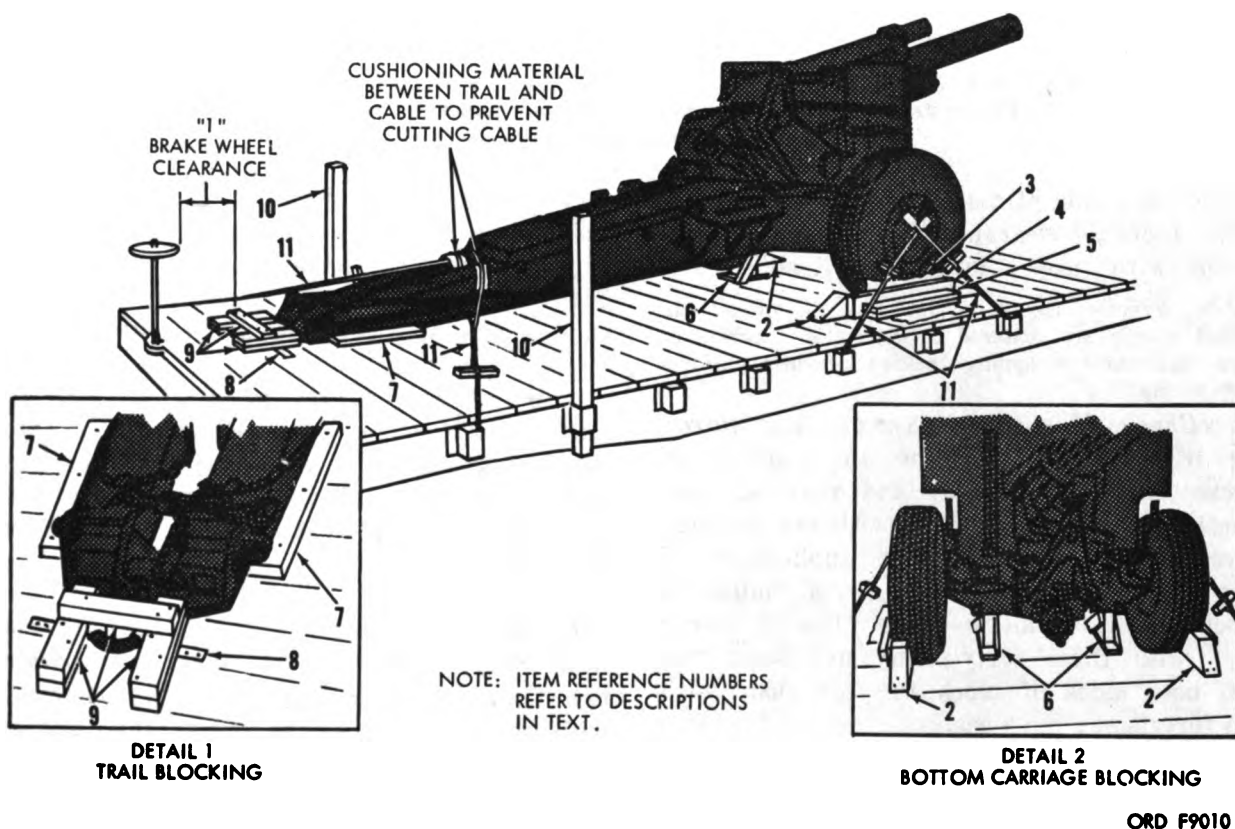
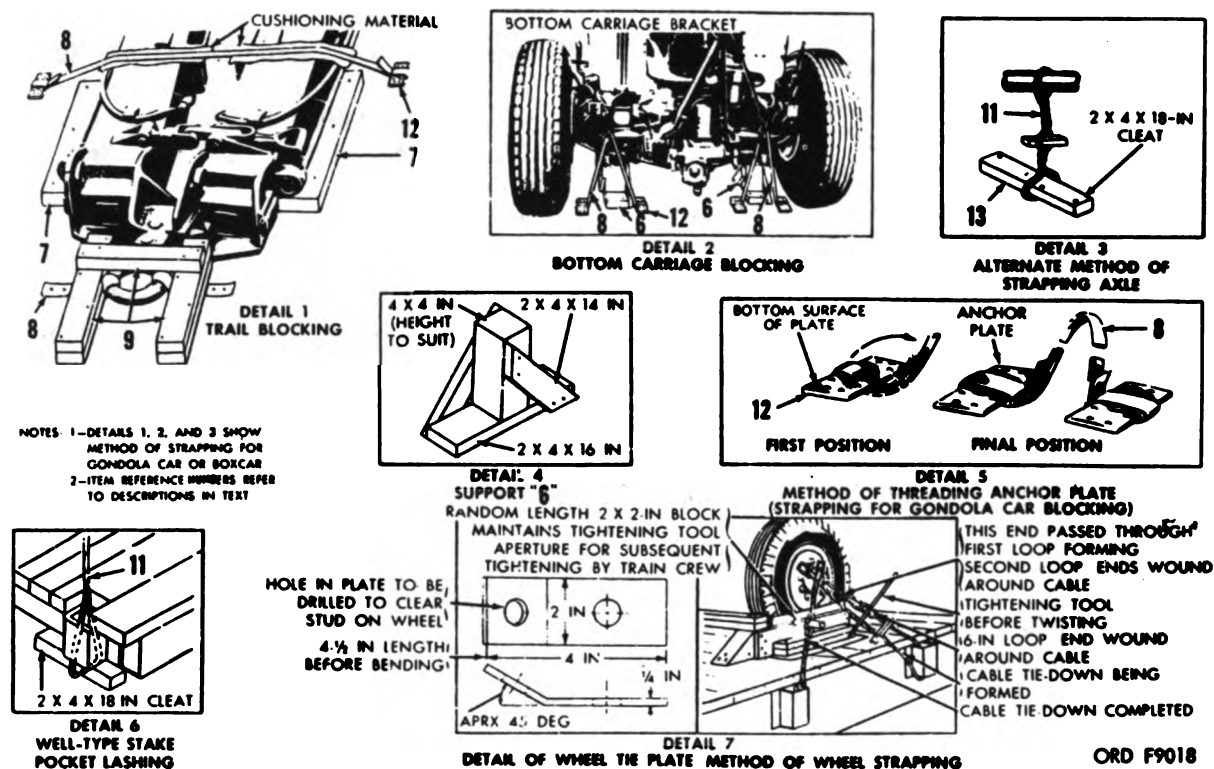
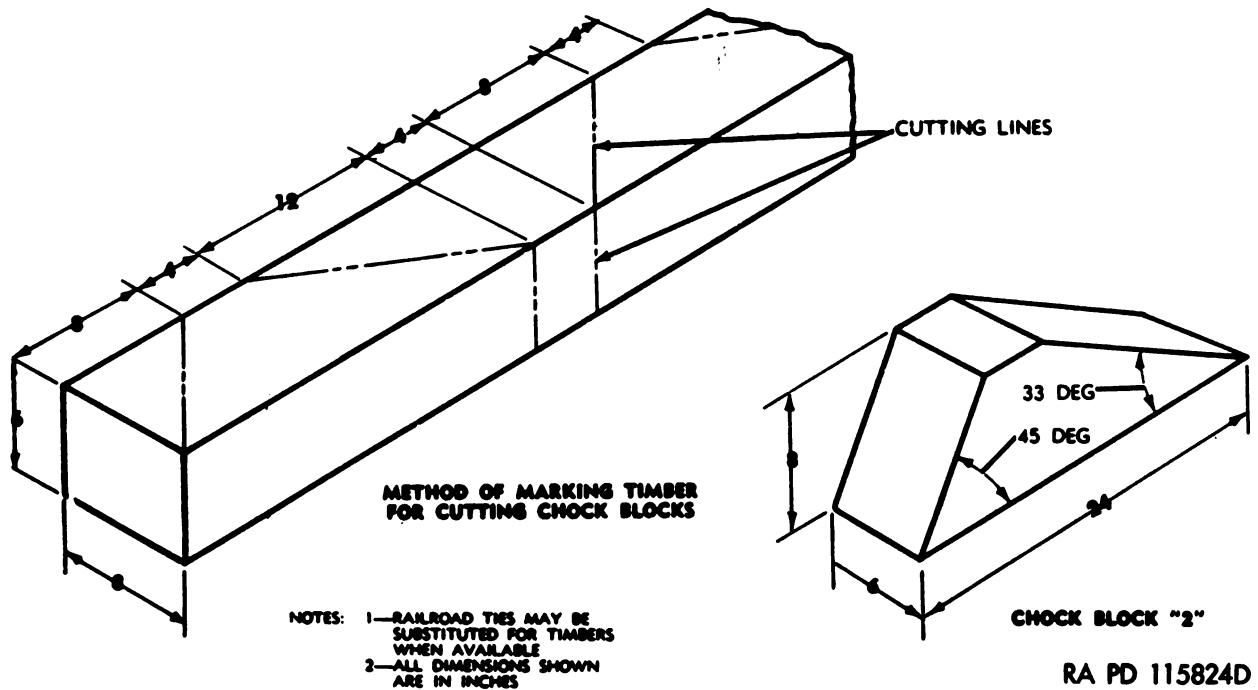

Figure 213. Method of blocking 155-mm cannon on carriage M1A1 for rail shipment.
Figure 214. Method of blocking 155-mm cannon on carriage M1A1 for rail shipment—blocking details.
Figure 215. Cutting chock blocks from timbers.
*a. General.* All blocking instructions specified herein are minimum and are in accordance with Association of American Railroads "Rules Governing the Loading of Commodities on Open Top Cars." Additional blocking may be added as required at the discretion of the officer in charge. Double-headed nails may be used if available, except in the lower piece of twopiece cleats. All item reference letters given below refer to the details and locations as shown in figures 213 and 214.
and to each side of the car brake wheel (fig. 213). Increase clearance as much as is consistent with proper location of load.
*Note.* Filler cleats may be used between chock blocks and side cleats to centrally locate the chock block against tires. These cleats are not shown in figure 213. Chock blocks may be cut from timbers (or railroad ties when available) as shown in figure 215.
**g. Supports (Two Required per Weapon).** Construct supports as shown in detail 4, figure 214. Height of supports must be 1 inch higher than the distance between car floor and under front trail of bottom carriage to partially relieve weight from the tires. Jack up the weapon and locate one support under each trail of bottom carriage (detail 2, fig. 213). Lower weapon onto supports and nail each base of support to car floor with forty penny nails.
- (1) **Trail cleats (2 x 4 x 18, two required per weapon).** Locate one cleat lengthwise of car against each side of trail under lifting handles. Nail cleats to car floor with thirty penny nails through each cleat staggered.
- (2) **Lunette strapping.** Locate a 1-1/4 x 0.85 hot-rolled steel strap through
**(1) Wheel strapping.**
- (a) Remove two upper stud nuts from each wheel. Screw the wheel tie plate into correct position for tie cables (detail 7, fig. 214). Install stud nuts and tighten securely.
- (b) Cut four strands of wire to length required according to the location of stake pockets. Twist-tie these wires together to form a single cable. Pass the cable through the wheel tie plate for a length beyond half the distance to stake pocket. Pass the other end of cable through a stake pocket *rearward* of wheel and form a 6-inch loop in end, winding *each* of the four wires *tightly* around the cable a few turns (detail 7, fig. 214). Make certain the loop is positioned well above the free end of cable. Pass the free end of cable through this loop, hand tight, and again wind end of each wire around cable tightly. Insert end of a tightening tool and random length 2 x 2 cleat at approximate center of cable and twist-tie just taut enough to remove all slack. Withdraw tightening tool, leaving cleat in cable for tightening cable during transit.
- (e) Cables are passed through stake pockets so that the cable loop lies against the car frame. A short stake driven into each stake pocket will protect the cable loop from chafing and loosening. (These stakes are omitted in fig. 213.) If flatcars are received where flooring is flush against the top of the well-type stake pockets, a loop of cable is passed through the stake pocket, and a short cleat about 2 x 4 x 18 is inserted in the loop below the stake pocket. Subsequent tightening of the cable will cause it to draw the wooden cleat securely against the bottom of stake pocket (detail 6, fig. 214).
**(2) Trail strapping.**
- (a) Wrap some form of cushioning material around trail where contact is to be made with cable (fig. 213).
- (b) Cut four strands of wire to length required according to the location of stake pocket. Twist-tie these wires together to form a single cable. Pass one end of cable around left trail and down beyond half the distance to stake pocket. Pass the other end of cable through stake pocket and up to meet the other end of the cable. Complete and twist-tie as described in (1) (b) above (fig. 213).
**(1) Trail strapping.**
- (a) Locate one piece of 1-1/4 x 0.035 hot-rolled steel strap on top of cushioning material across the top of trails and coil around steel anchor plates as shown in detail 1, figure 214. Secure by nailing anchor plates to car floor with not less than 6 twentypenny nails, (double-headed nails preferred).
- (b) As an alternate method of securing trails, substitute a cable (consisting of four strands of No. 8 gage block annealed wire or wires of equivalent strength) for steel strapping. Pass cables around trails (detail 3, fig. 214) and around cleat (2 x 4 x 18). Locate cleats lengthwise of car and nail to car floor with four thirtypenny nails in each cleat. Bring both ends of cable together as prescribed in j(1)(b) above (detail 7, fig. 214).
- (2) *Bottom carriage strapping.* Locate one piece of 1-1/4 x 0.035 hot-rolled steel strapping through each hole in brackets on the front of the bottom carriage. Strapping is to be secured to car floor as prescribed for trail strapping ((1) above).